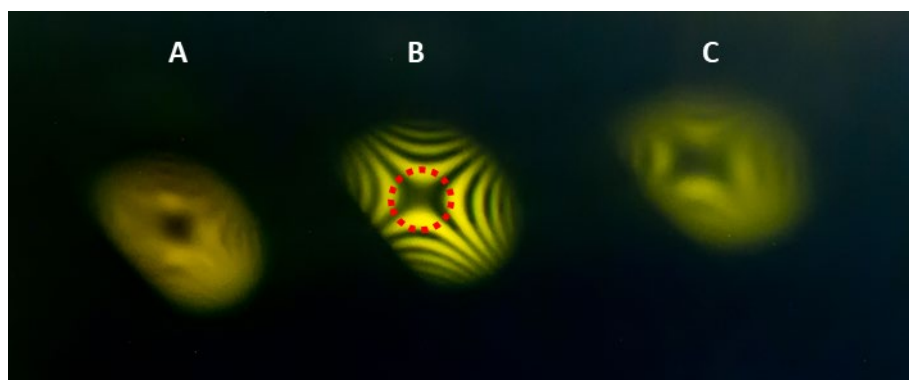

Figure 9: Three pictures of the light spot after the focusing lens, at different distances.
STEP 5: After the focusing lens, find the plane where spatial interference fringes have maximum contrast. In fact, after the focusing lens, the contrast of the fringes depends on the distance from the lens itself (please refer to Figure 9 below: in case A and C, the selected plane is not at the proper distance from the focusing lens: indeed, interference fringes in these two cases show very poor contrast. Case B shows the best condition, where interference fringes show very good contrast). Place your detector so that its active area lies in this plane (case B in Figure 9).
NOTE: In order to maximize the contrast, you can use an aperture to select the central part of the spot (as an example, please refer to the red dotted circle in Figure 9(B)).